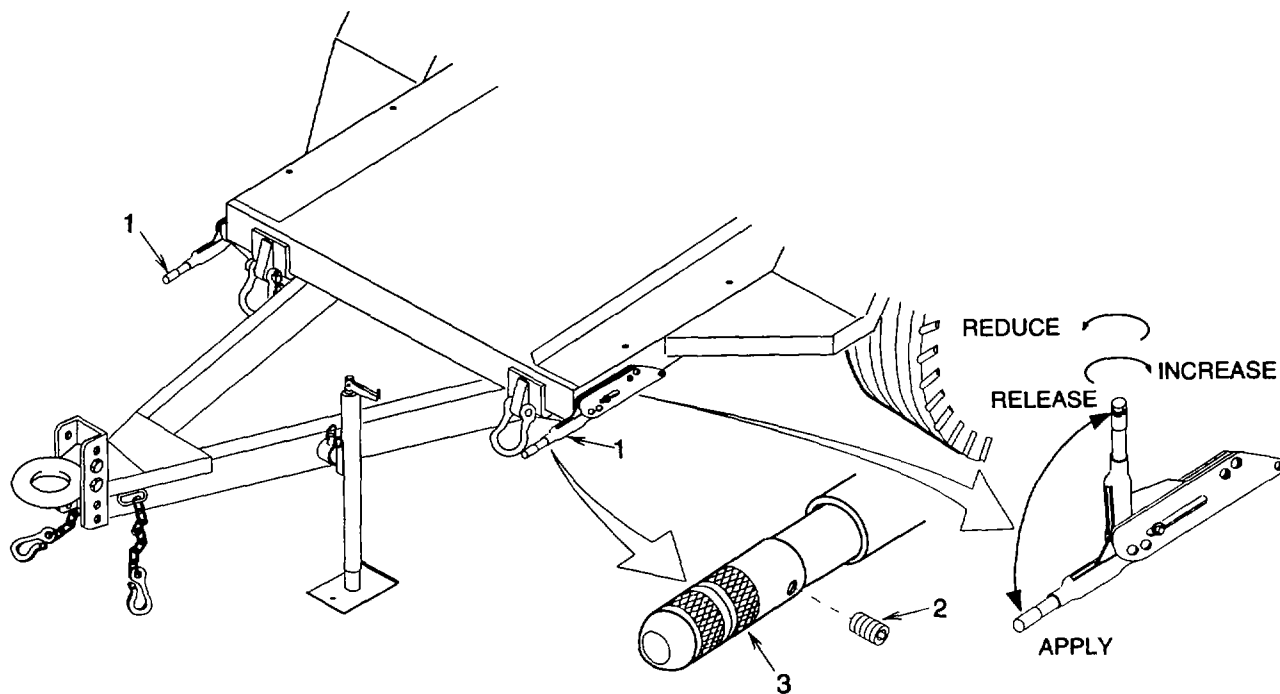

Figure 4-32. Parking Brake Adjustment
- (1) Install brake (28) assembly and five lock nuts (27).
- (2) Lubricate spindle (30) and inner bearing (25) with grease then install cup (26), inner bearing, and grease seal (2)
- (3) Lubricate outer bearing (22) with grease then carefully install brake drum (21), cup (23), and outer bearing.
- (4) Install spindle washer (20) and spindle nut (19). Tighten spindle nut until the brake drum (21) just begins to drag when turned. Loosen the spindle nut just until a slot aligns with hole in spindle (30).
- (5) Install new cotter pin (18).
- (6) Install grease cap (17).
- (7) Install two spacers (16), cable (15), roller (14), shaft (13), flat washer (12), and new cotter pin (11).
- (8) Install parking brake lever (1), spacer (10), two screws (2), spacers (9), cable (15), spacers (8), and nuts (6).
(9) Install link (5), cable (15), clamp (4), two screws (3), and new lock nuts (2).
(10) Install tires/wheels (para 4-28).
d. Adjustment (See figure 4-32.)